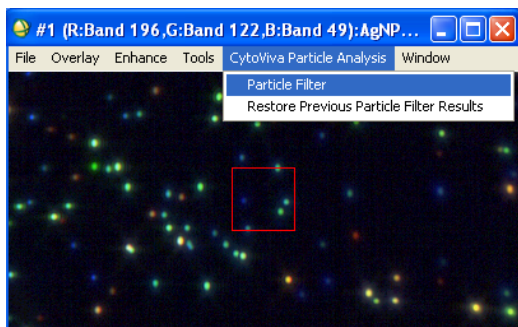

Figure 1. Particle Filter Drop Down Menu
2. In the image menu bar, select the Particle Filter Analysis (see Figure 1). Click Particle Filter.